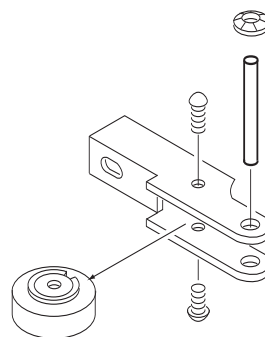

Figure 2
6. Remove the idle roll arm assembly by removing the retainer. Store for possible reuse. (See Figure 2).